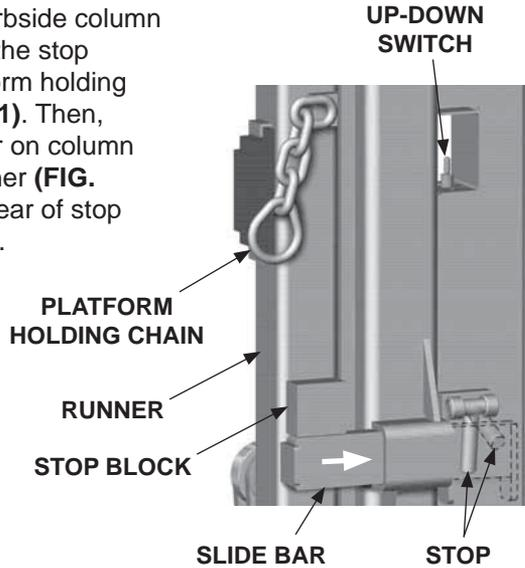
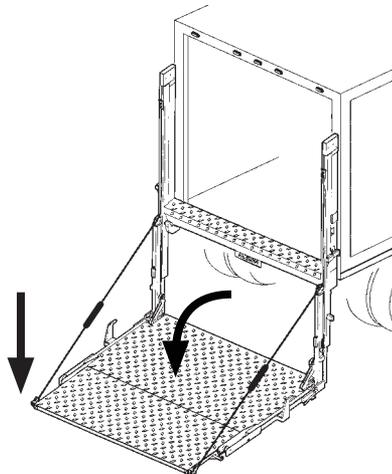

FIG. 14-1
FIG. 14-2
1. Use **UP-DOWN** switch on curbside column to raise (**UP**) the runners off the stop block. Next, disconnect platform holding chain from platform (**FIG. 14-1**). Then, raise stop and move slide bar on column away from stop block on runner (**FIG. 14-1**). This keeps slide bar clear of stop block when lowering platform.
2. Use **UP-DOWN** switch (**FIG. 14-1**) to lower the platform to the ground (**FIG. 14-2**). Platform unfolds as it lowers.
4. Use FOLD-UNFOLD switch (FIG. 15-2) near bottom of column to unfold platform. Then, use UP-DOWN switch (FIG. 14-1) to lower the platform to the ground (FIG. 14-2).